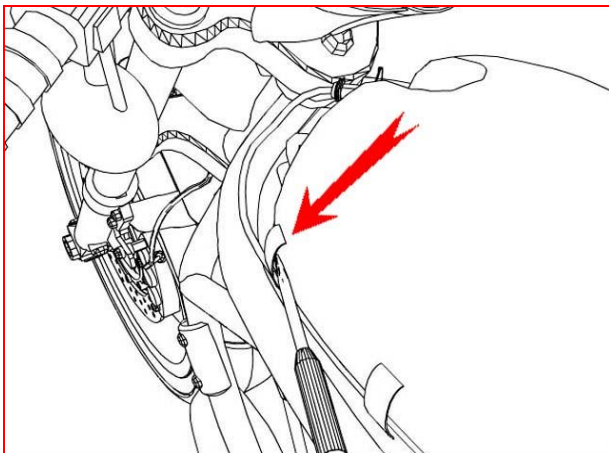

Figure 2
3. Use a screwdriver to disengage the 8 clips retaining the airbox lid. The front clip is not visible and must be reached from left side. (fig 2)